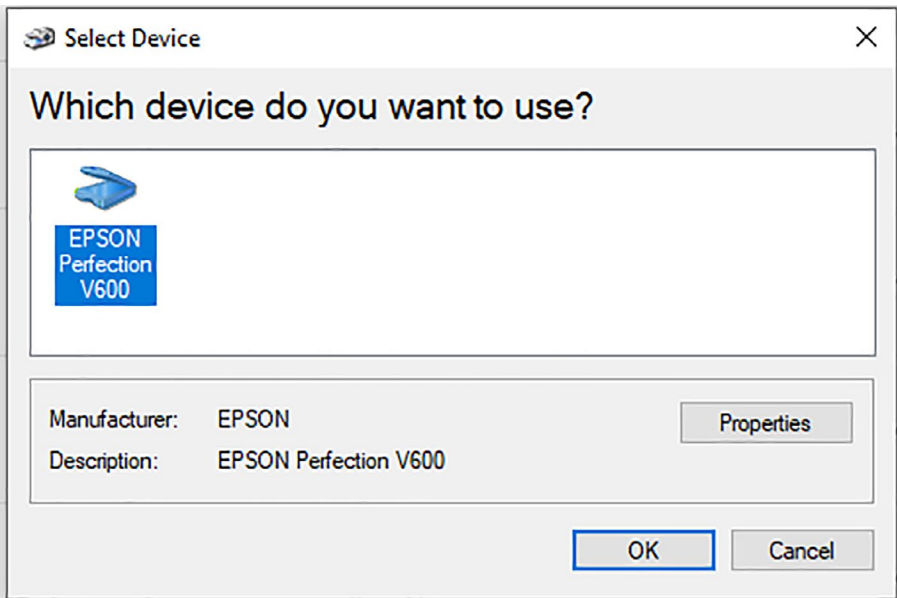

Figure 1-23. Select Device dialog box where you can choose a digital camera or scanner that you want to acquire images from
3. When you click the Start button, you will then be presented with the Select Device dialog box; in this case, it lists the scanner which is selected and its properties which will vary depending on the manufacturer and driver setup as per setup instructions. As mentioned earlier for the scanner, always make sure your drivers and software are up to date, so the scanner will be recognized and appear here. Refer to Figure 1-23.